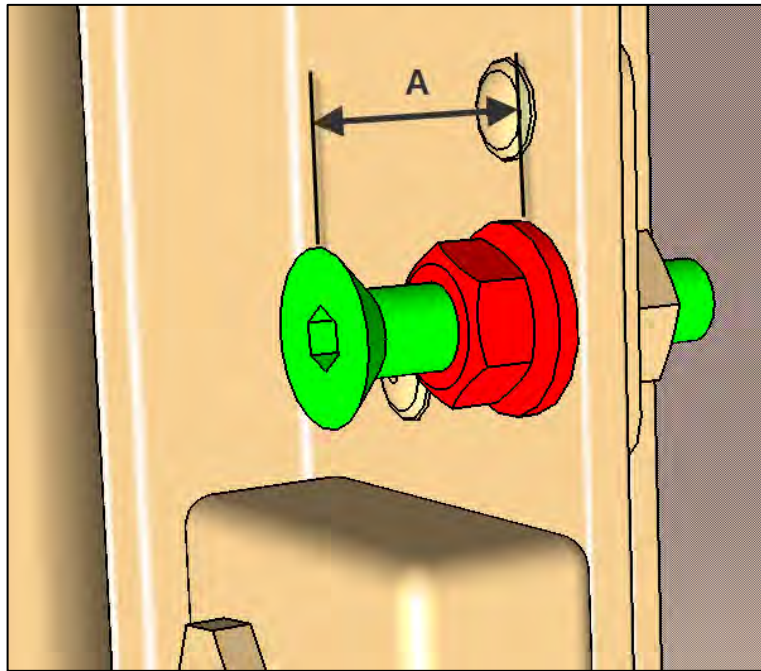

Figure 18
Hand tighten and adjust to **$13/16" \pm 1/16"$** (21 $\pm$ 2mm) (A) (Figure 18)